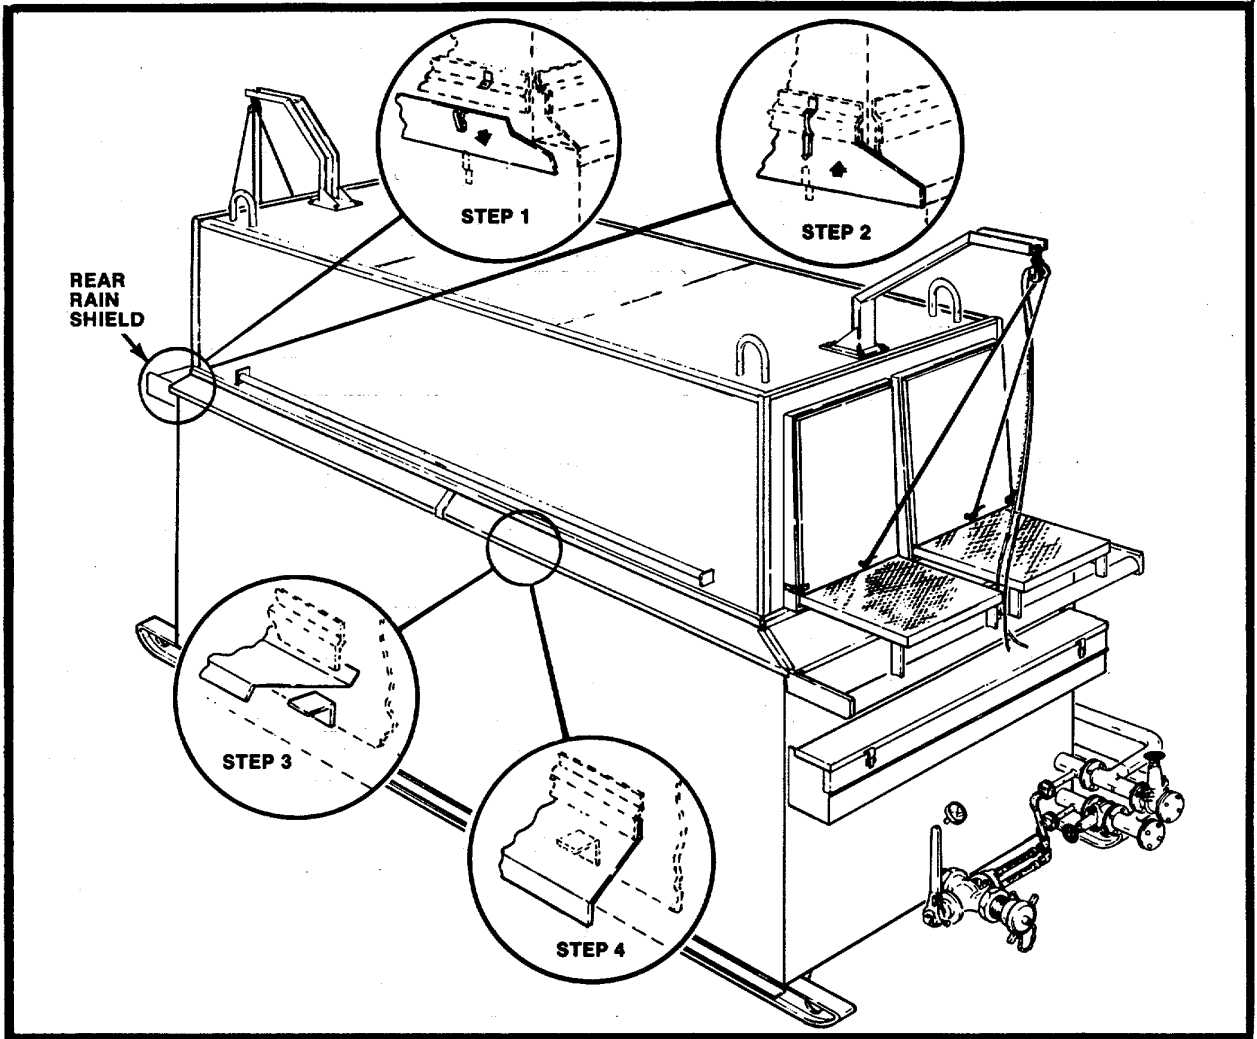

Figure 2-3. Installing rain shields.
d. Install the six-piece rain shield around base of tunnel as shown in figure 2-3. The rear rain shield must be installed first, then the side rain shields, working from the rear forward, with the front rain shield installed last.